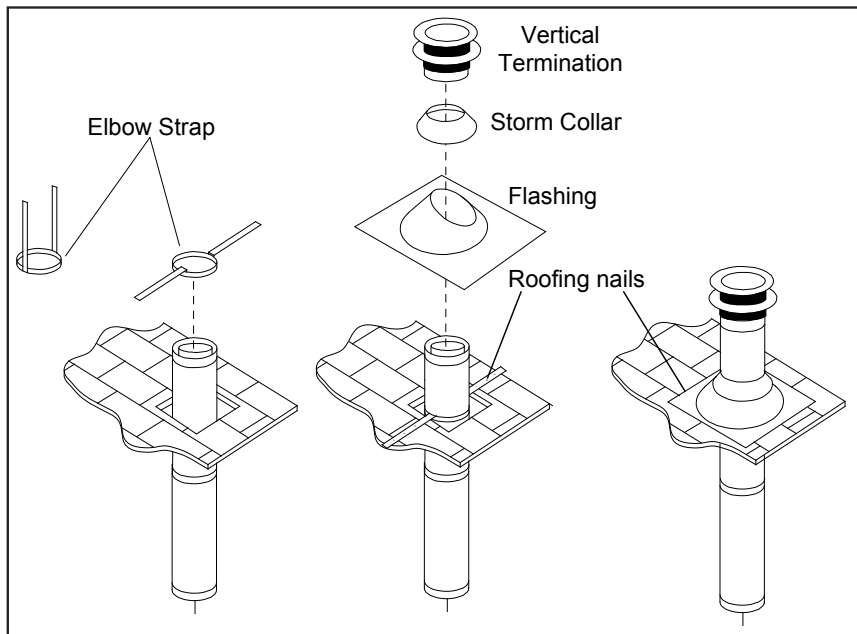

Figure 29. Vertical Vent Termination
- STEP 6.** Once the pipe sections have been joined, and run up through the hole in the roof, slip an elbow strap over the exposed sections, bend the support straps outwards, and push the elbow strap down to the roof level, as shown in Figure 29. Tighten the clamp around the pipe section. Use a level to make sure the pipe is truly vertical. With roofing nails, secure the support straps to the roof. Seal the nails holes heads with non-hardening mastic. Trim the excess length of the support straps that extend out beyond the edge of the flashing.
- STEP 9.** Slip the storm collar over the pipe, and push it down to the top of the roof flashing as shown in Figure 29. Use the non-hardening sealant around the joint between the pipe and the storm collar.